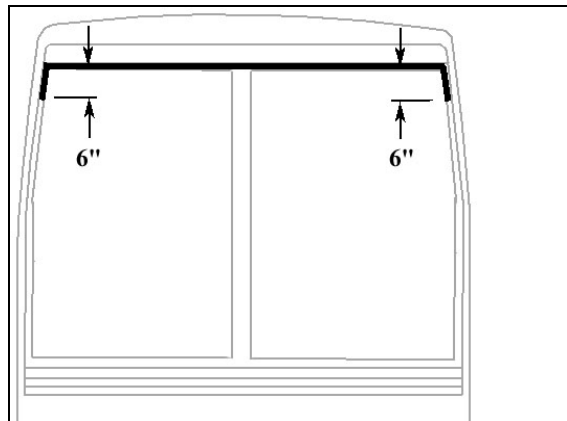

FIGURE 19: APPLICATION OF SIKI 221 BLACK
- Apply Sika 221 black (Figure 19) between fiberglass and rubber extrusion